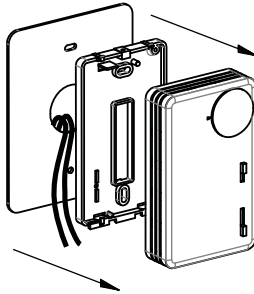

Figure 6.
2. Remove the cover of old thermostat (see Fig.6).